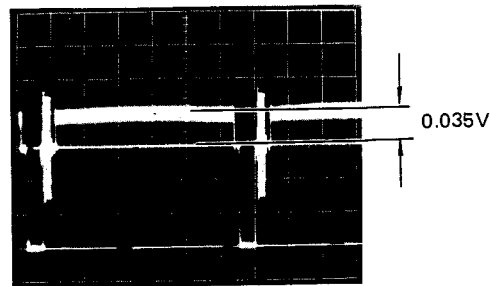

Fig. 5-6-24
- o Adjust VR2 (CAMERA PEDESTAL) so that the camera pedestal level is 0.035V. (Fig. 5-6-24)